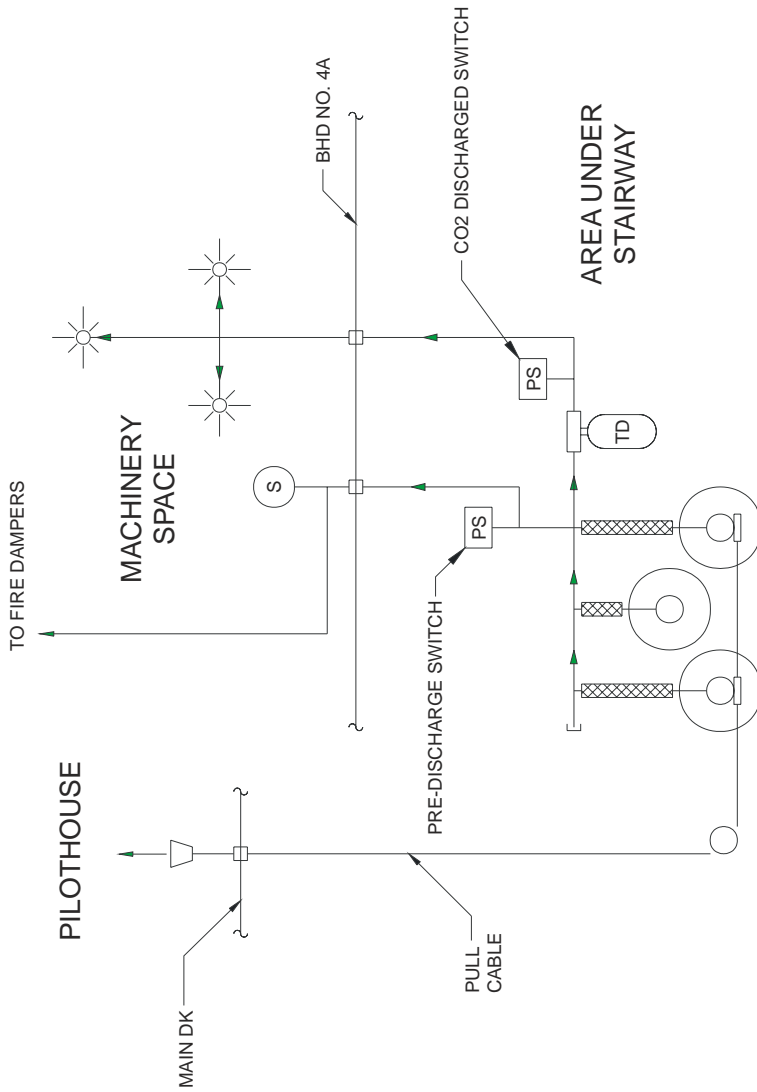

Figure 3-47
- N.1. General** A fixed carbon dioxide (CO₂) flooding system (**figure 3-47**) is provided to extinguish a fire in the machinery space. The system can be locally actuated by a lever on the CO₂ bottle control head or remotely from a pull station located in the pilothouse on the aft console.